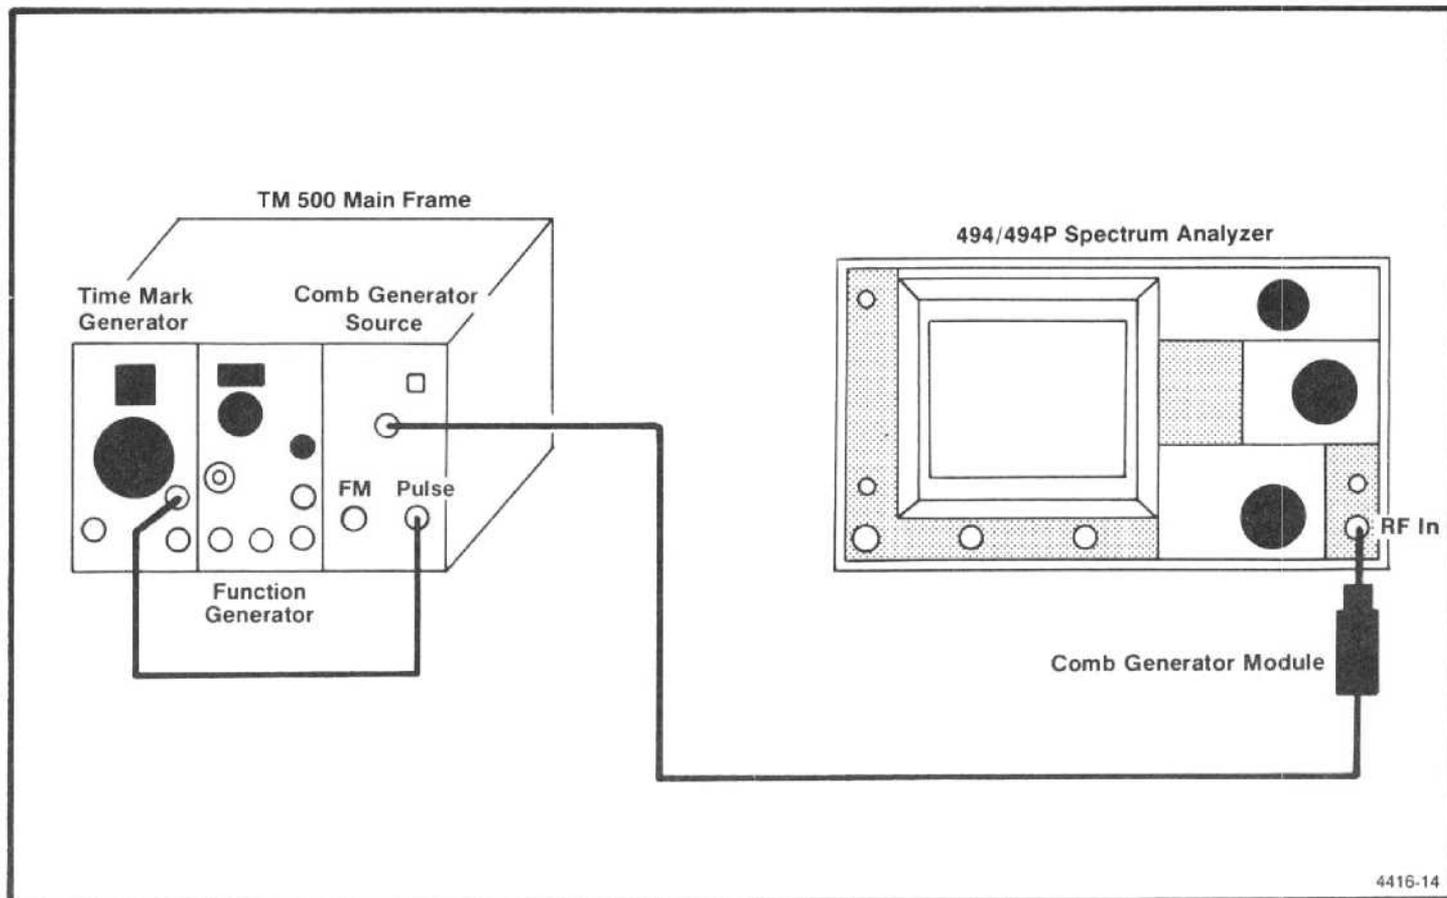

Figure 4-5. Test equipment setup for checking frequency span/div and sweep time/div accuracy.
a. Equipment setup is shown in Figure 4-5 .
e. Remove the CAL OUT signal to the RF INPUT and apply the output of the Microwave Comb Generator, as shown in Figure 4-5. Set the FREQUENCY to 10 GHz, (band 4, 5.4 to 18 GHz) FREQ SPAN/DIV to 500 MHz, RESOLUTION BANDWIDTH to 100 kHz, and REF LEVEL to -10 dBm. Peak the response with the MANUAL PEAK control and adjust REF LEVEL for the best marker definition. It may also help to adjust the CENTER FREQUENCY for better marker definition.
h. Modulate the Comb Generator signal with 10 μ s markers, from the Time Mark Generator, by applying the Marker Output to the Pulse Input of the Comb Generator as shown in Figure 4-5. Adjust the MANUAL PEAK control for optimum marker definition.